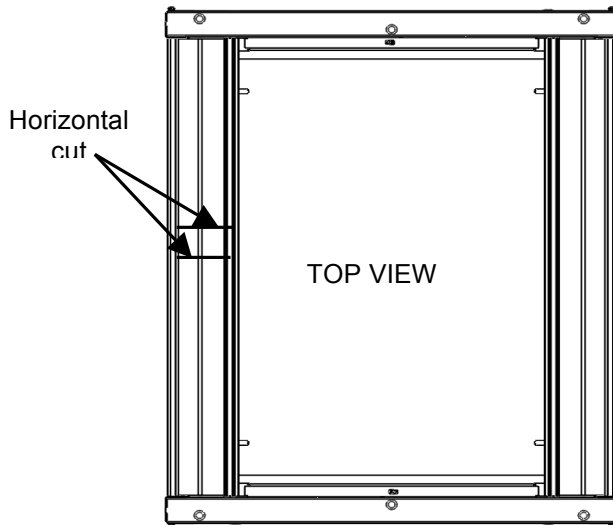

Fig. 10
9. To provide an opening for the cables, give two horizontal cuts (Fig. 10) Width of cut depends on diameter and number of cables need to come out of opening.